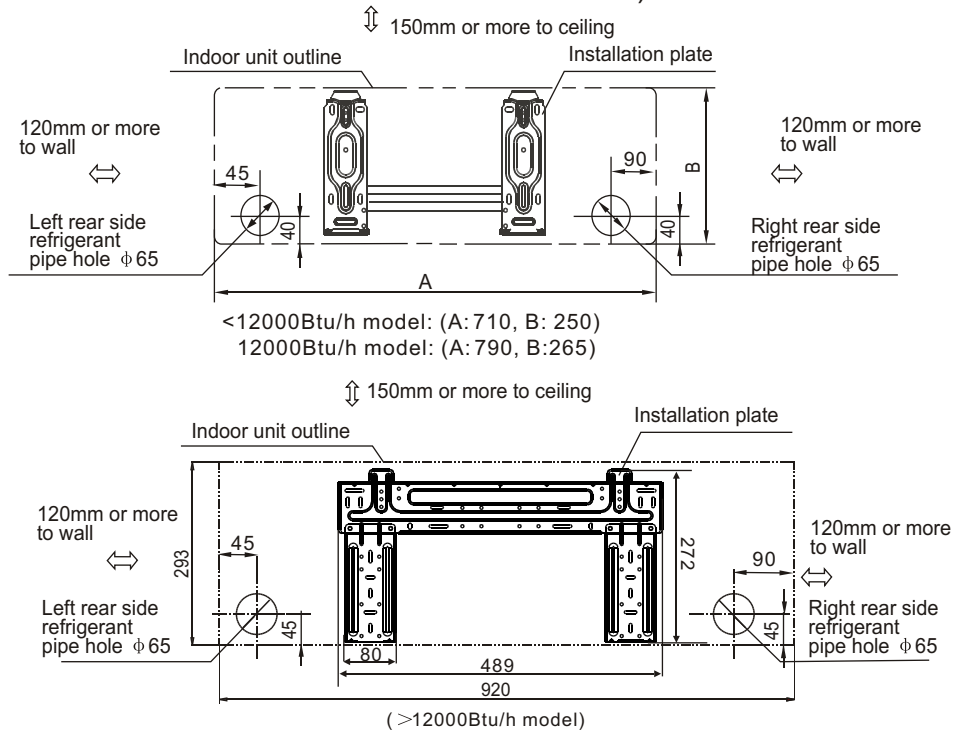

Fig.5
1. Determine hole positions according to the diagram detailed in Fig.5. Drill one (1) hole ( $\phi$  65mm) slanting slightly to outdoor side.